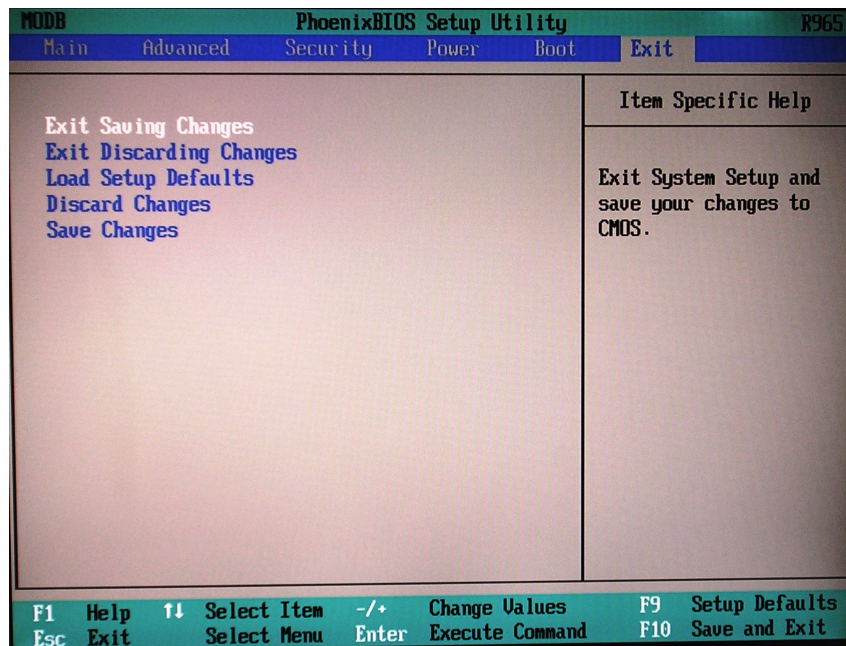

Figure 8-122 BIOS Exit Screen
11) Press <F10> to **Exit Saving Changes** as shown in Figure 8-122.